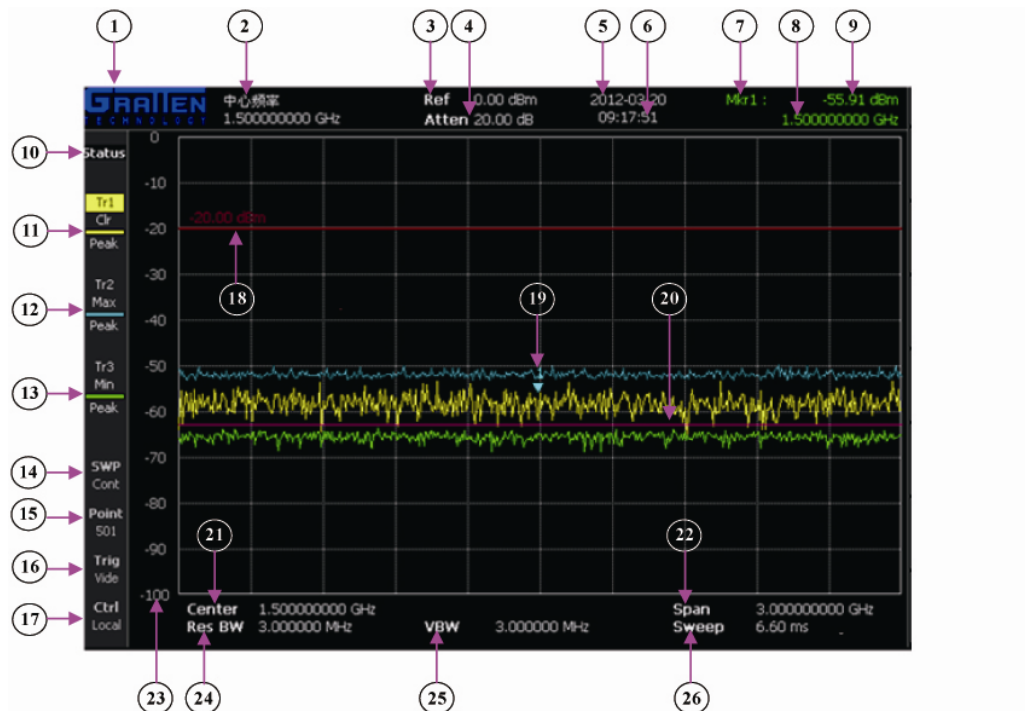

Figure 1-4 LCD user interface
- 2) Press the menu key on the right of the menu item the **Center Frequency** to select the center frequency parameters. At this moment, the menu item **Center Frequency** will be highlighted and the parameter value of the center frequency will be displayed in the active function area in the upper left corner of the screen (see the area 2 in Figure 1-4 LCD user interface).